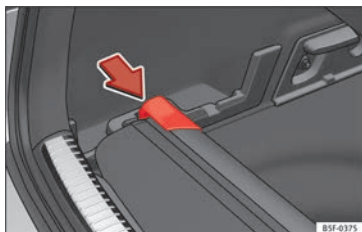

Fig. 166 In the luggage compartment: housing for storing the rear shelf.
- Press the head of the rear shelf in the direction of the arrow until it engages in its housing »» Fig. 166.